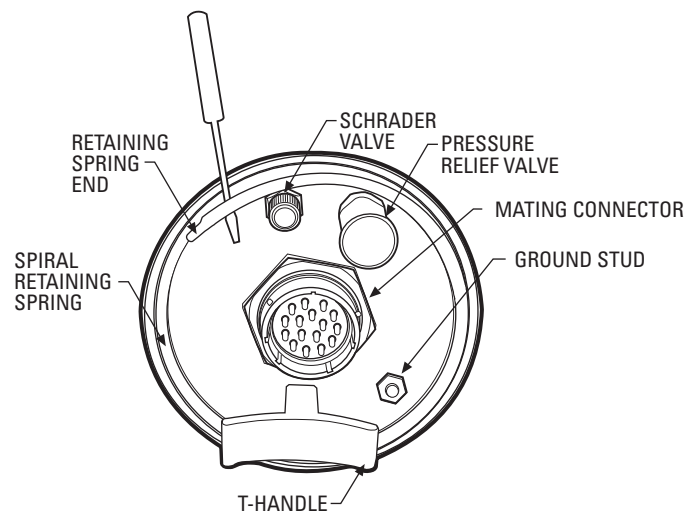

Figure 1. Rear View
1. Remove the rear plate of the enclosure (refer to Figure 1):
To pressurize the inside of the enclosure with nitrogen (refer to Figure 1 on page 5):
2. Connect the mating connector to the rear of the enclosure (refer to Figure 1 on page 5).
3. Remove the center cap from the Schrader valve (refer to Figure 1 on page 5).
4. Reinstall the spiral retaining ring in the retaining groove in the rear of the enclosure. (Refer to Figure 1 on page 5.)